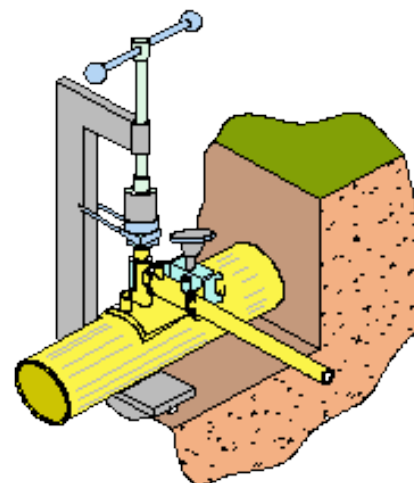

Figure D5 – Clamping Fitting to Main & Coupler to Tee/Pipe
5. Apply the correct loading pressure on the fitting (1.0 to 1.5 kN), this will be displayed by the indicator on the tool. Figure D5.